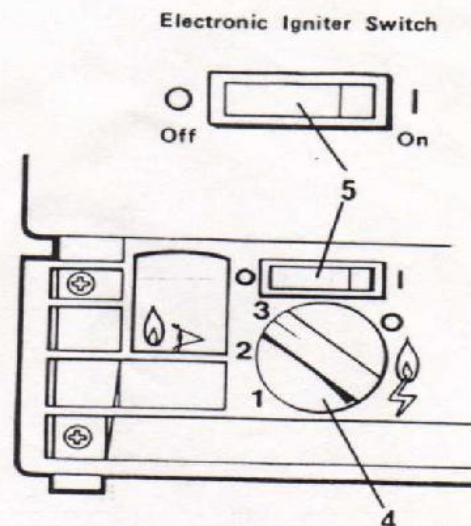

Fig. 2
4.2.3 Lighting the Burner (see fig 2)
The gas control knob (4 fig 2) has four positions marked 'OFF' and 3, 2 and 1 representing three sizes of flame - Maximum, Medium and Minimum. The amount of cooling produced in the refrigerator will depend on the size of flame used.
When operating on gas ice can be made more quickly if the control knob (4 fig 2) is temporarily turned to the maximum flame position (No.3)